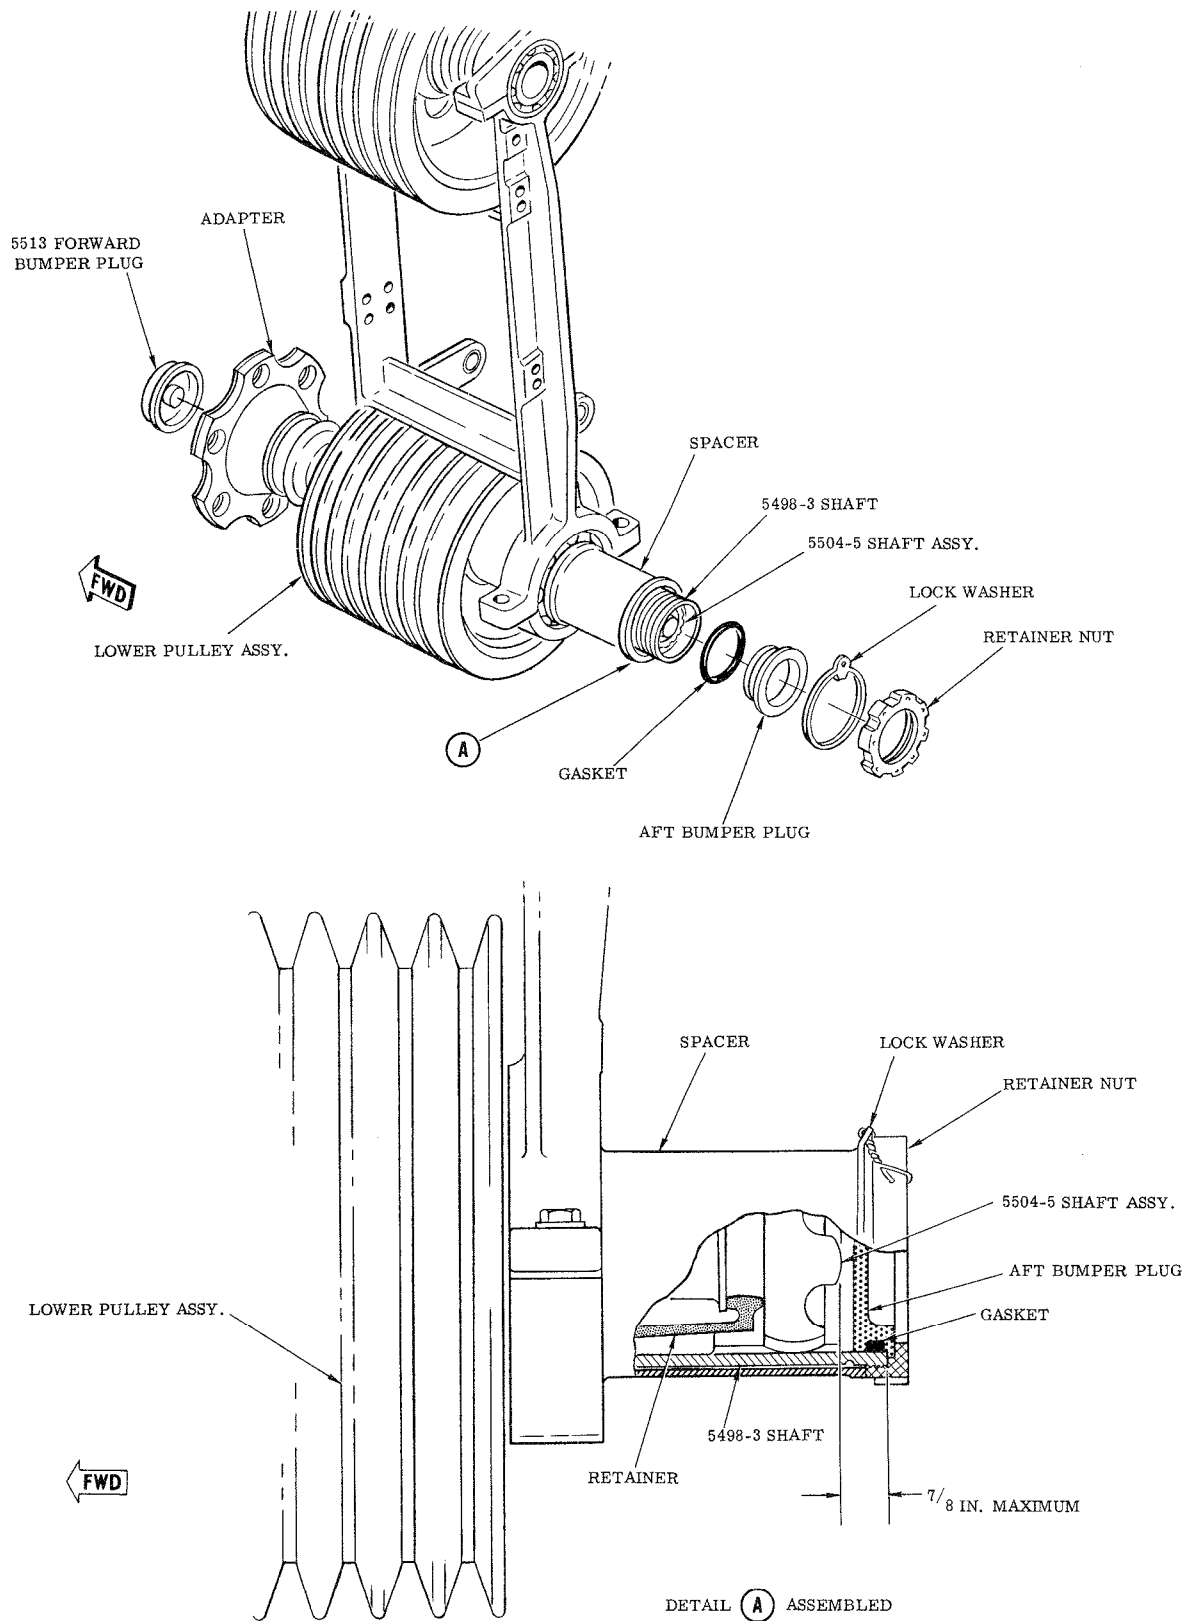

Figure 1. Inspection-Lower Coupling Drive Shaft, Forward Bumper Plug
- a. Cut and remove safety wire between nut and lockwasher at aft end of lower coupling drive shaft; remove nut, lockwasher, gasket and bumper plug. (See Figure 1)
- c. Using depth gage, measure distance from aft end of lower coupling drive shaft to end of threaded shaft. (See Detail A, Figure 1)